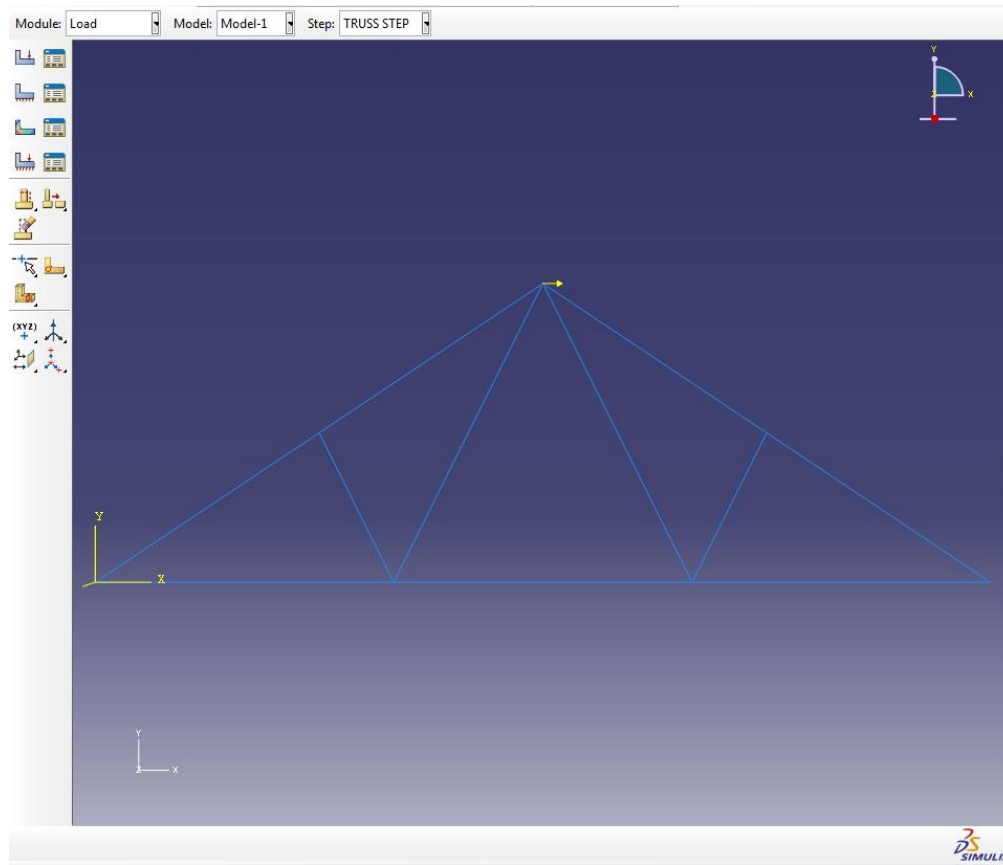

Figure 25. 1000-lb Load
- Click **OK**. If this step was done properly, then a small yellow arrow will appear at the node where the force was applied and points in the positive X direction (Figure 25).